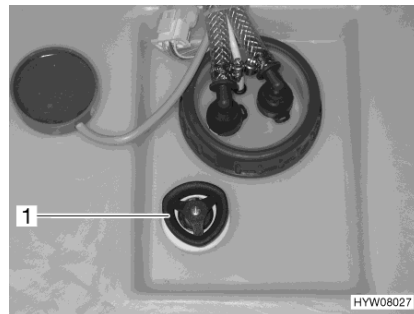

Fig. 155 Water tank with rotary handle
- Turn the rotary handle (Fig. 155,1) on the water tank in a clockwise direction as far as it will go.
- Turn the rotary handle (Fig. 155,1) on the water tank in an anticlockwise direction as far as it will go. Excess water will drain away leaving approx. 20 litres in the tank.